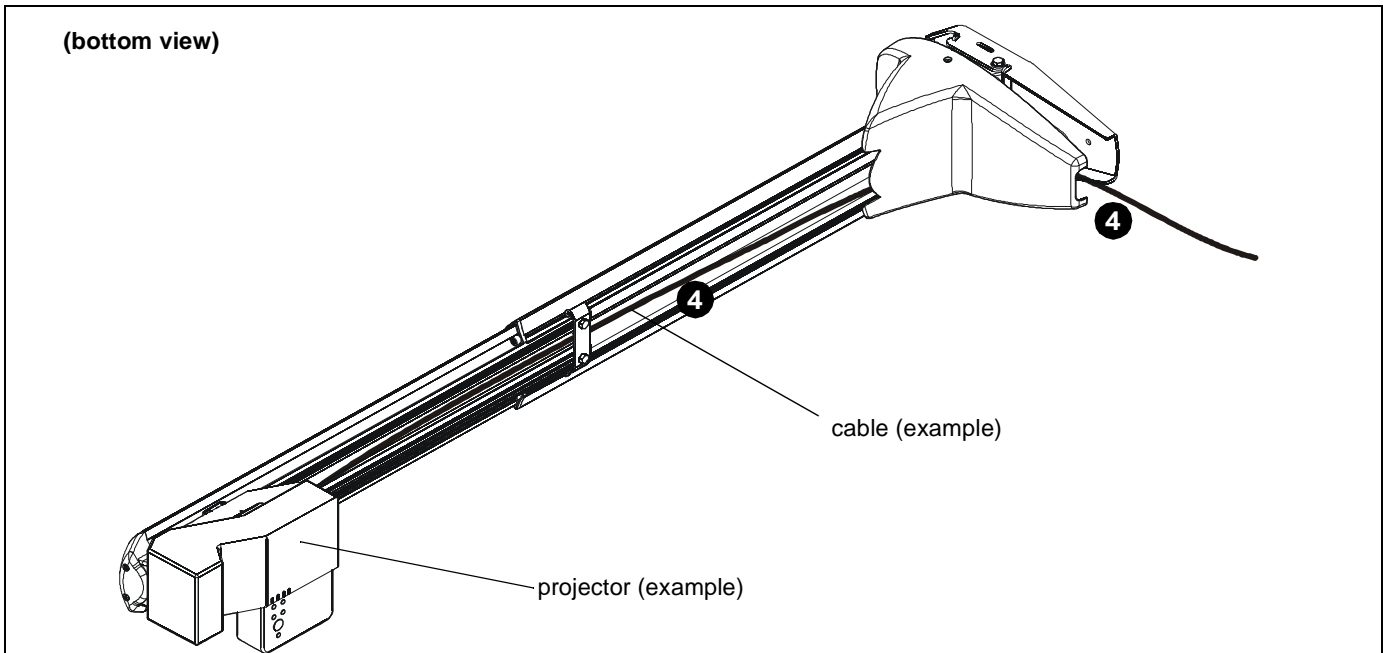

Figure 25
4. Route projector cable(s) under mount cover and through short throw projector arm tunnel. (See Figure 25)